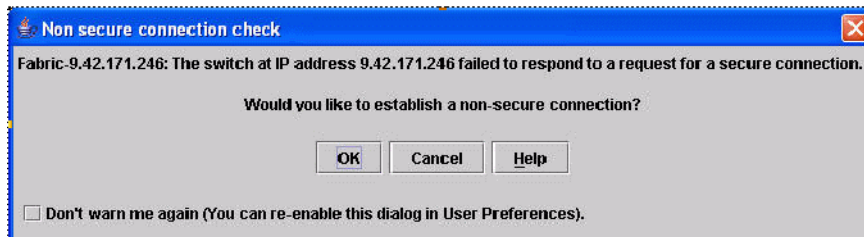

Figure 7-4 Non secure connection check window
4. Click **OK** when the Non secure connection check dialog appears (Figure 7-4).